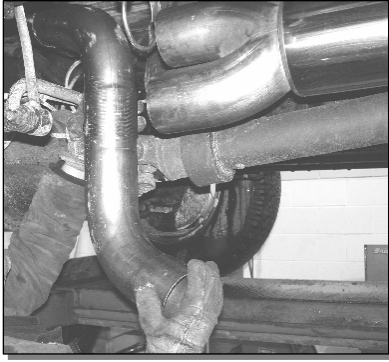

Figure 10
7. Install the **Over Axle Pipe** connecting the slip joint to the top outlet of the dual outlet **Muffler**. **Do not tighten** to allow for adjustment. **See Figure 10.**